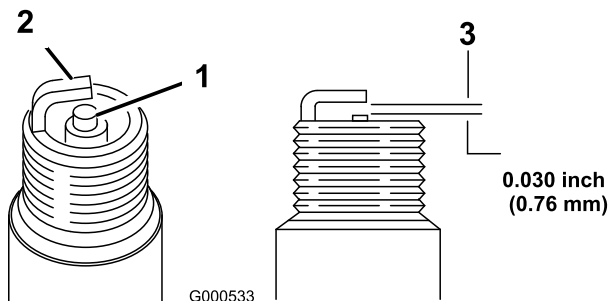

Figure 40
2. Check the gap between the center and side electrodes (Figure 40). Bend the side electrode (Figure 40) if the gap is not correct.
1. Look at the center of the spark plug(s) (Figure 40). If you see light brown or gray on the insulator, the engine is operating properly. A black coating on the insulator usually means the air cleaner is dirty.